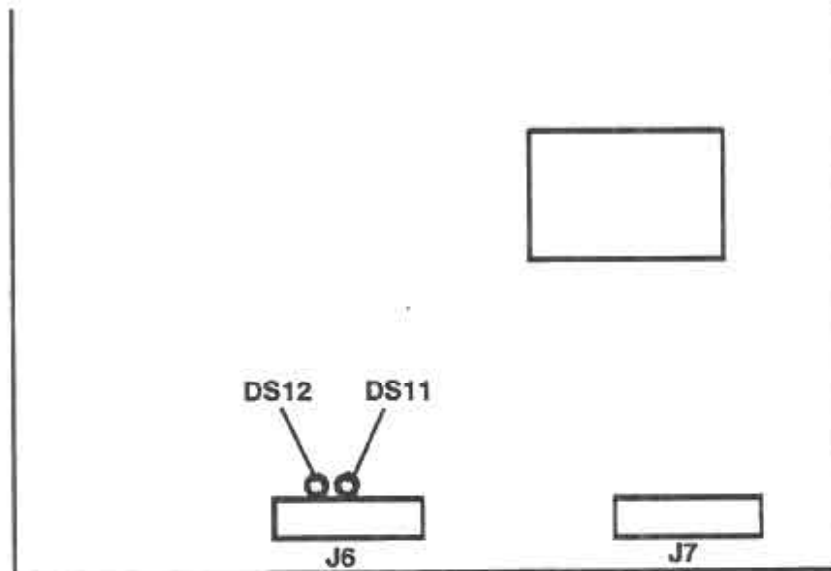

Figure 3-2. Functional testing LED indicators.
- (4) Check that the light emitting diodes (LEDs), identified in figure 3-2 as DS11 and DS12, are glowing. LED DS11 indicates that the fans are operating and LED DS12 indicates that the heaters are operating.